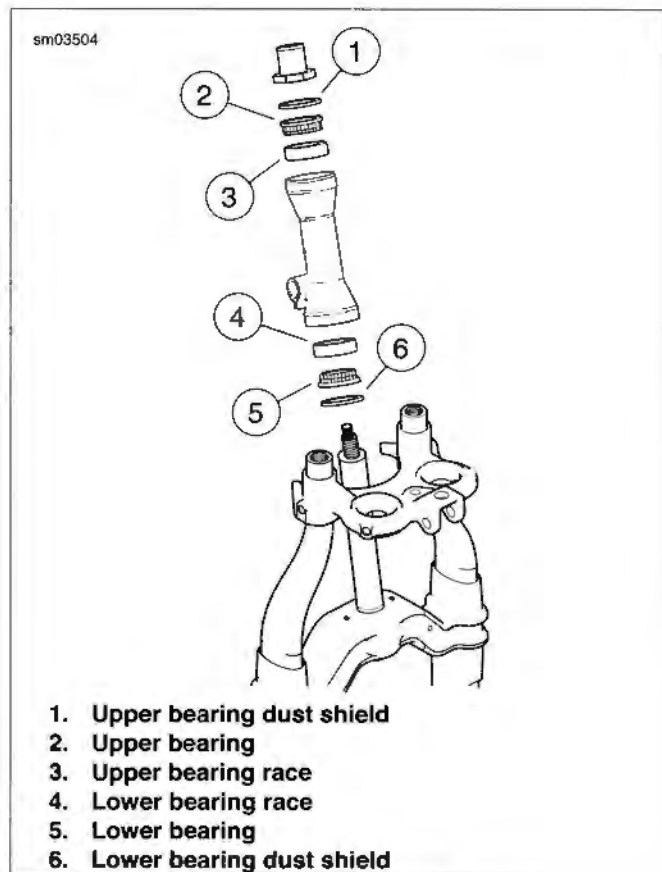

Figure 2-81. Steering Head
- See Figure 2-81. Remove upper bearing dust shield (1).
- Remove upper bearing (2).